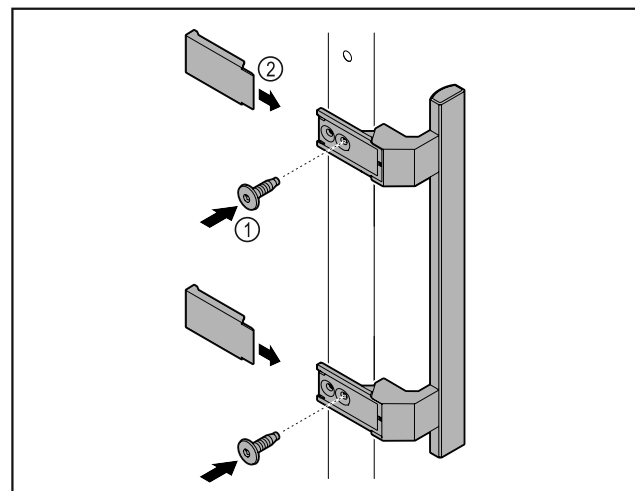

Fig. 7
- Attach handle from accessory kit to the door using the screws Fig. 7 (1) supplied.
- Put on cover Fig. 7 (2).